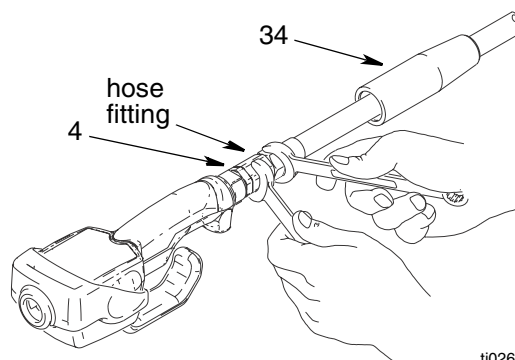

FIG. 6
2. Slide the swivel cover (34) onto the hose, small end first, before connecting hose fitting to swivel (4) (FIG. 6).
3. Apply thread sealant to the male threads of the hose fitting. Thread the hose fitting into the swivel (4) and tighten firmly (FIG. 6).